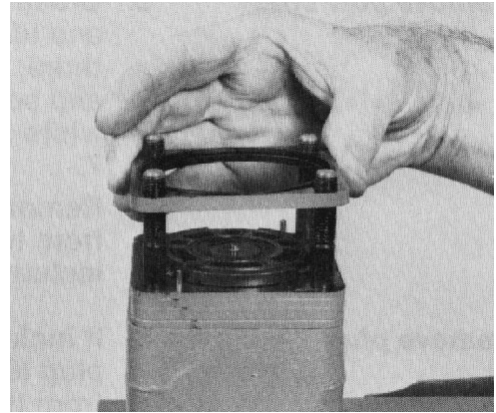
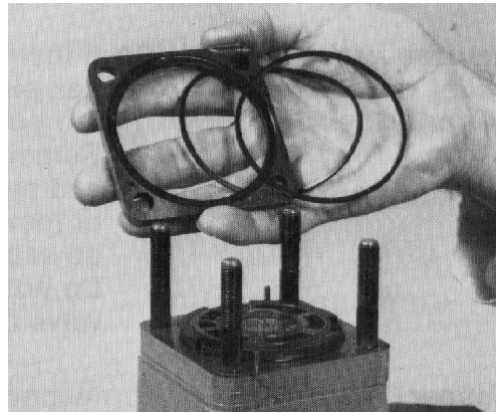

Figure 32
Figure 33
11. Remove the valve ring (Fig. 32). Remove and discard the two seal rings (Fig. 33). The valve ring should be free of nicks and scoring.